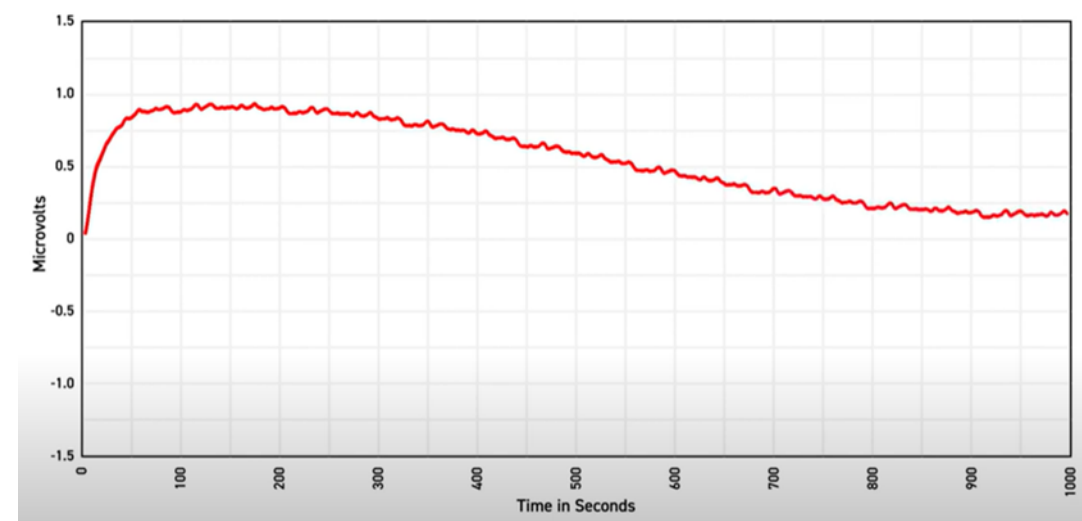

Figure 2 The thermal EMF response of a 100-2-A-5/2D.
- Figure 2 shows the response of one of Pickering's low thermal EMF devices (from its 100 series – in which device dimensions are just 24.1 x 10.2 x 15.2mm (L x W x H).